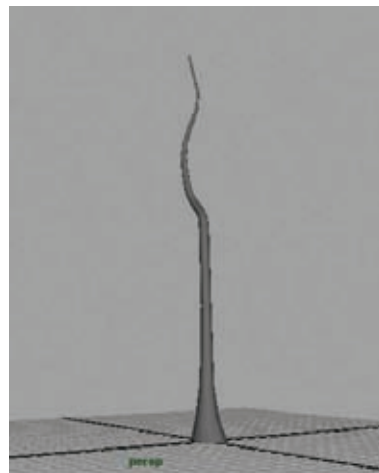

Figure 2.20
7. Under the polyExtrudeFacel Input in the Channel Box, scroll down toward the bottom of the available settings and increase the Divisions setting to 14 and the Taper setting to 0.2. If you like, you can also add some slight Twist to the branch as well. After applying settings you like, you should have something like Figure 2.20.